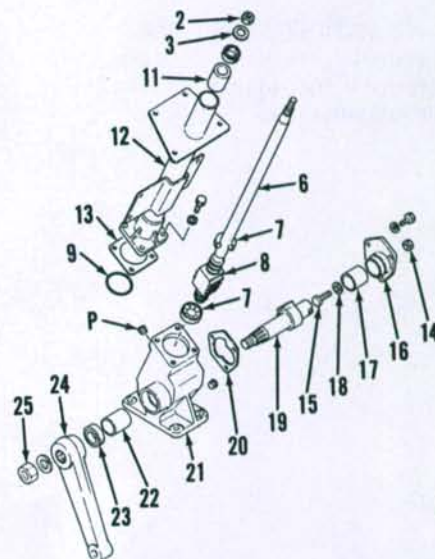

Fig. 5 - Exploded view of steering gear typical of type used on YM135, YM135D, YM155 and YM155D models.
11. **OVERHAUL.** Remove cap screws attaching side cover (16-Fig. 5 or Fig. 6) to housing (21), remove locknut (14), then turn adjusting screw (15) in to push cover away from housing. Loosen nut (25) and turn shaft (6) until gear on shaft (19) is aligned with opening in